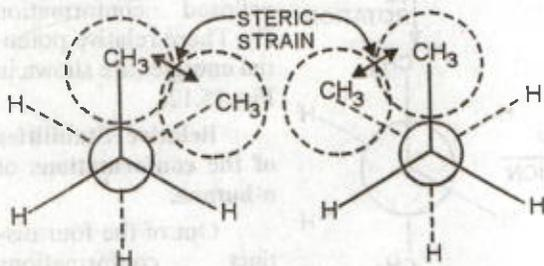

FIGURE 15.13. The two methyl groups in gauche conformations of *n*-butane being 60° apart cause steric strain.
(i) **Steric strain.** If the two non-bonded atoms (or groups) just touch each other, i.e. are held together at a distance just equal to sum of their van der Waals radii, they attract each other. Conversely, if the two non-bonded atoms or groups are brought closer than the sum of their van der Waals radii, they repel each other. Such repulsive interaction is called van der Waals strain or steric strain. For example, gauche conformation of *n*-butane (refer to Fig. 15.13), is less stable than anti-conformation due to steric strain or van der Waals strain because both these conformations are free of torsional strain and angle strain.
the two gauche conformations (II and IV) in which the two non-bonded methyl groups are only 60° apart and hence cause crowing or steric strain (Fig. 15.13). As a result of this steric strain, the two gauche conformations (II and VI) are slightly less stable than the anti-conformation (IV). However, the two gauche conformations are themselves of equal energy.